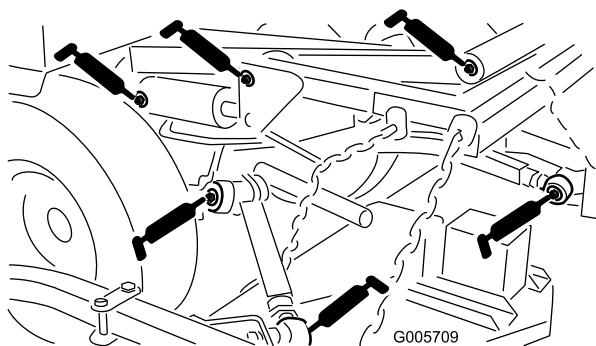

Figure 35
- PTO shaft and yokes (3) (Figure 35)
- Lift arm pivots (Figure 35)
- Right and left push arm ball joints (Figure 35)